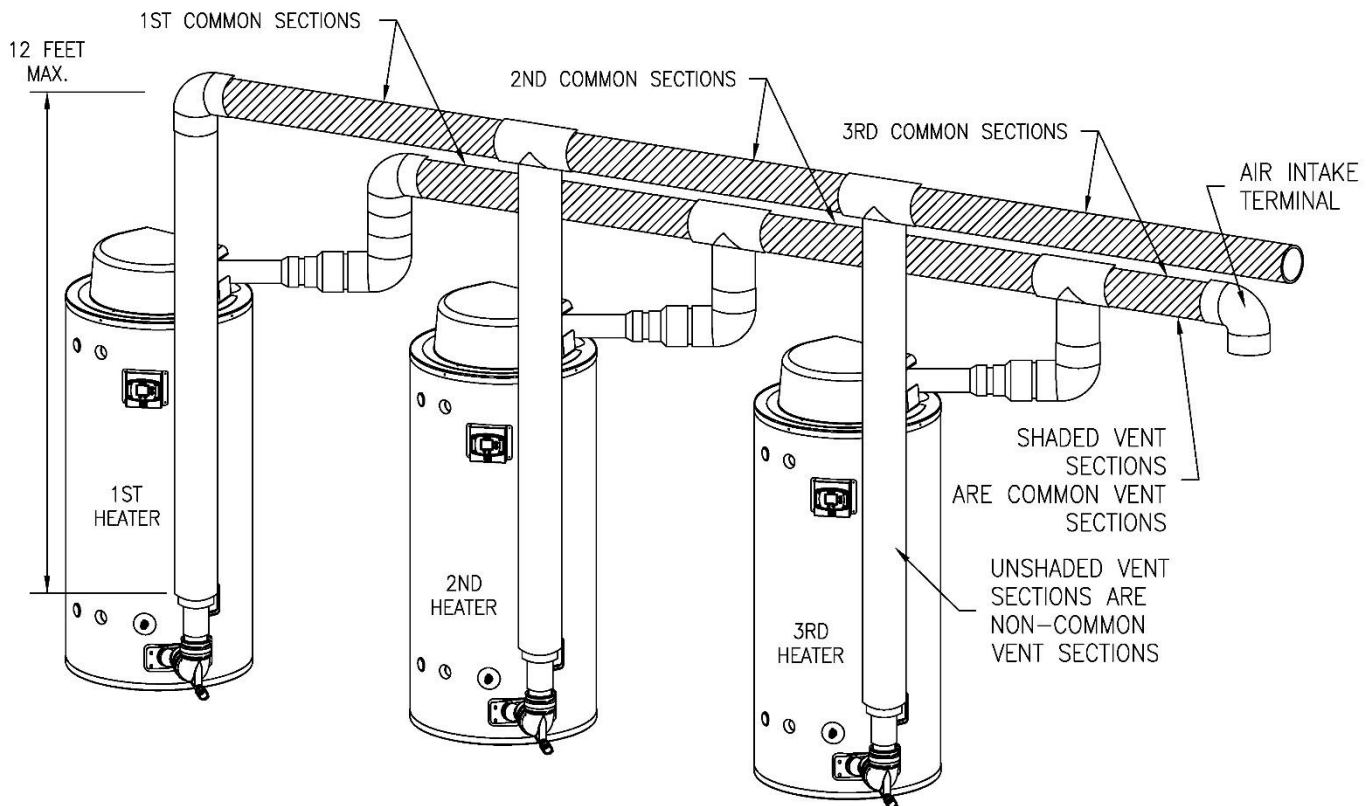
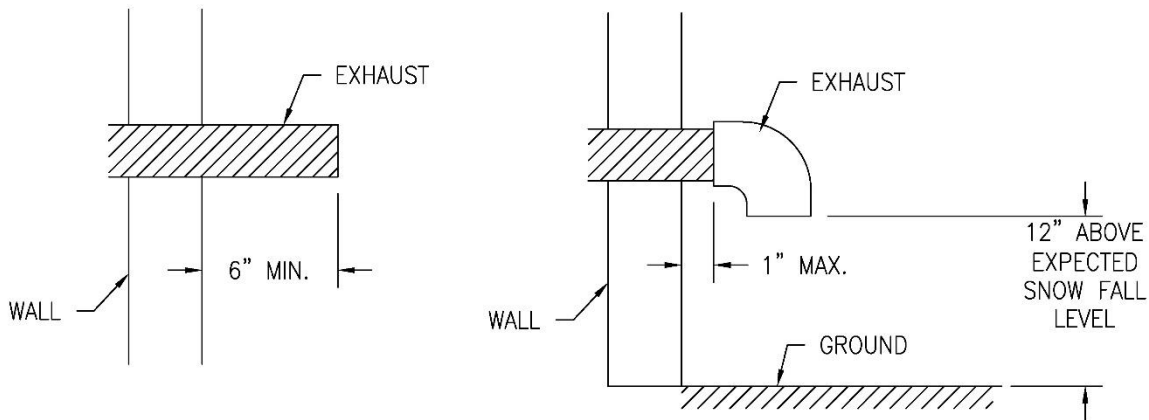
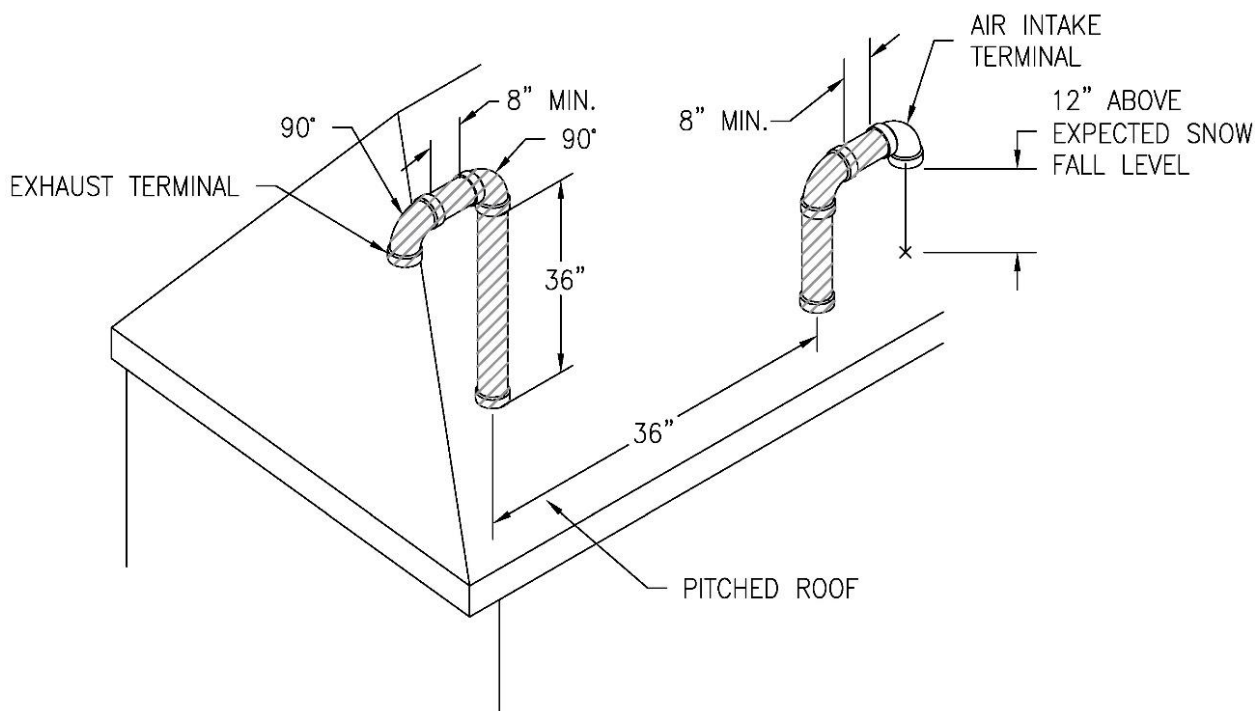
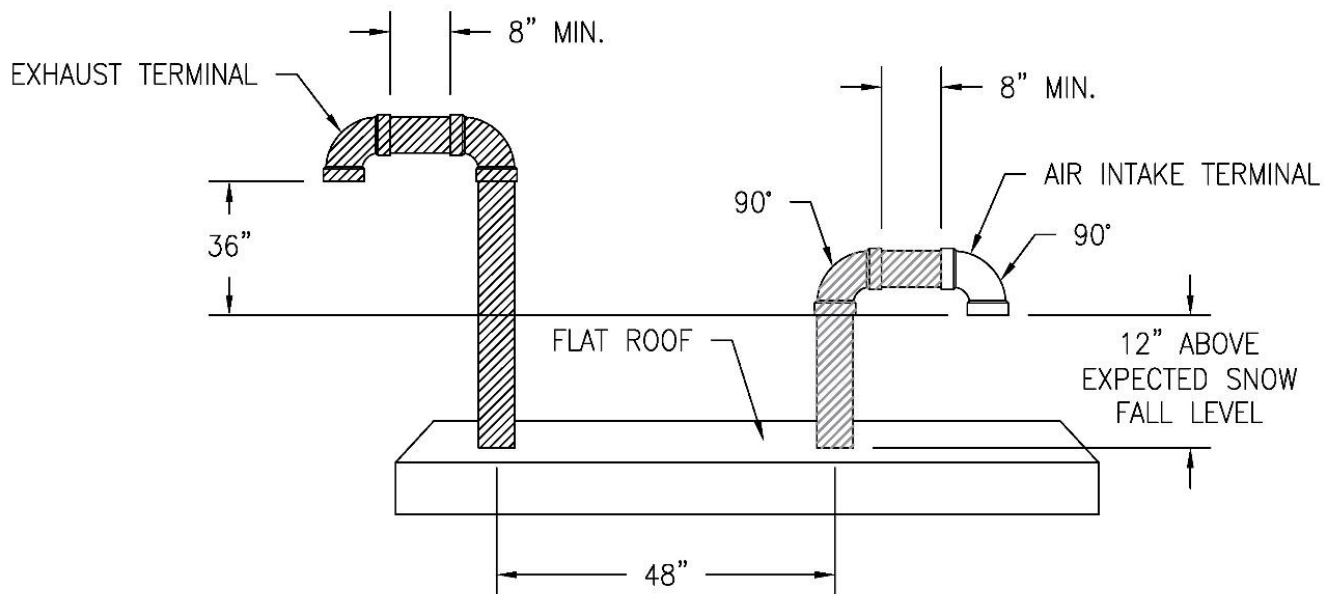

FIGURE 1. DEFINITION OF COMMON vs. NON-COMMON VENT SECTIONS – PVC/CPVC AND POLYPROPYLENE.
FIGURE 3. Recommended Horizontal Direct Vent System Wall-Vent Separation (Intake and Exhaust Terminals may be on different outside walls.)
FIGURE 5. Recommended Vertical Direct Vent System Installation for Pitched Roof.
Figure 6. Recommended Vertical Direct Vent System Installation for Flat Roof.
The system layout must be planned to minimize the linear length and number of fittings in the system. Consult the water heater's installation instructions in the I&O Manual for proper clearances for service which can be found under Section IV: INSTALLATION INSTRUCTIONS for Group 1 and 2. The common vent sections are defined as the shaded sections of venting shown in Figure 1. All sections that are not shaded in Figure 1 are considered non-common vent sections.
There are a total of 6 shaded sections shown in Figure 1, known as common vent sections. Each individual common vent section has the following equivalent vent length requirements:
- a maximum of **2 tees** can be used when constructing the common vent system with **2 water heaters**. (All tees permitted in the construction of a 3-water heater common vent system are shown in Figure 1.)
- When adding up each common vent section equivalent length count each 90° elbow as 5 feet and each 45° elbow as 2 ½ feet if any elbows are used. **None are used in the configuration shown in Figure 1.**
- The air intake terminal, labeled in Figure 1, is not counted when adding up the length of the 3rd common section on the intake side of the system, see Figure 1.
When direct venting through a wall, the separation between exhaust vent outlet and wall is recommended to be a minimum of 6" (see Figure 3). The separation between the air intake terminal (see Figures 1 and 3) and wall is recommended to be a maximum of 1". It is also recommended that the air intake terminal outlet be 12" above expected snow fall levels in the place of installation, see Figure 3.
Figure 5 shows the recommended vertical direct vent system installation for a pitched roof, Figure 6 shows an installation for a flat roof. For both configurations it is recommended that the exhaust and intake are terminated as shown. The intake and exhaust are recommended to be facing opposite directions, see Figures 5 and 6, and be terminated with a 90°-8" MIN. Section-90° to prevent rain or snow from easily entering the system. For both configurations it is recommended that the inlet of the air intake terminal and exhaust terminal outlet have a **vertical** separation of 36". It is recommended that the air intake terminal inlet be 12" above expected snow fall levels.
For a pitched roof installation, it is recommended that the intake and exhaust straight sections have a **horizontal** separation of 36", for flat roof 48", see Figures 5 and 6.
The shaded intake and exhaust vent components shown in Figures 5 and 6 are parts of the 3RD Common Section shown in Figure 1 and all components are to be counted when adding up common section equivalent lengths, except the unshaded air intake terminal, see VENT LENGTH INFORMATION section of this manual.